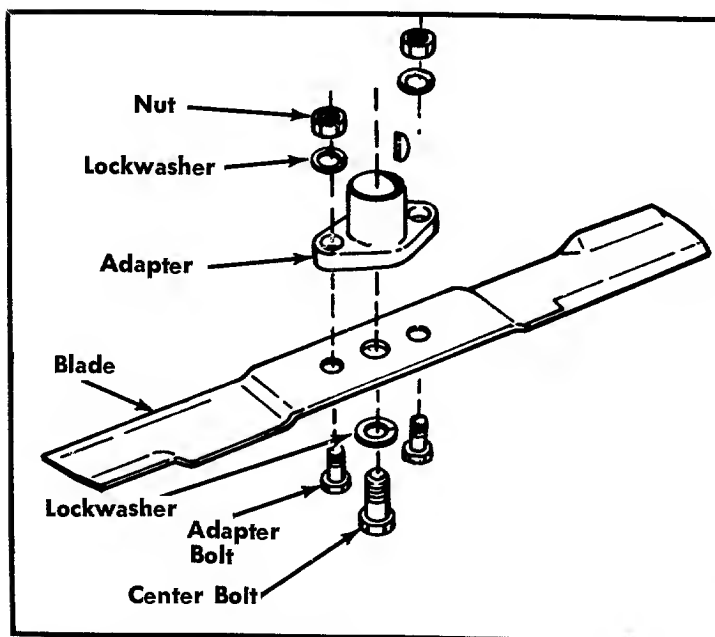

FIGURE 18. BLADE REMOVAL
**Removing and Sharpening Blades.** Remove the center bolt and lockwasher. See figure 18. Pull the blade and blade adapter from the blade spindle.